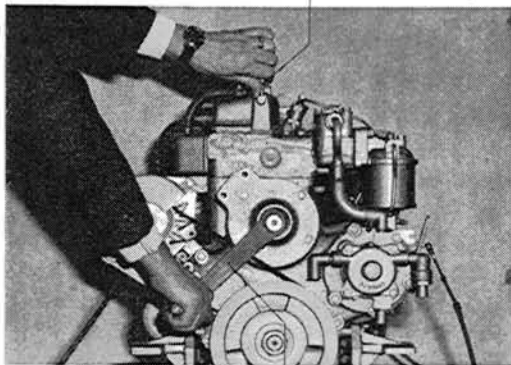

Fig. 7 Components for manual starting
- 2 Set the decompression lever — see Fig. 7 — in vertical position.
- 3 Insert the starting crank, see Fig. 7.